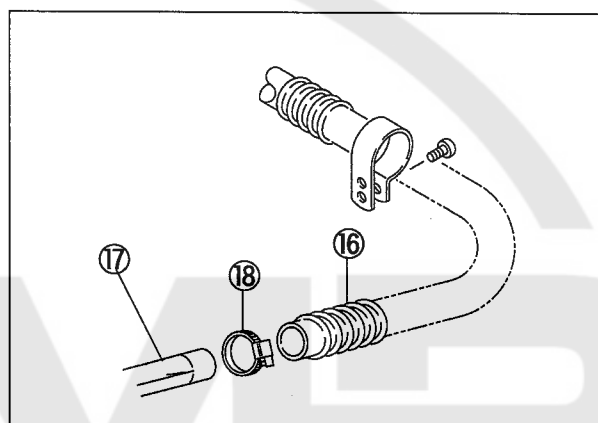

Fig. 5
- (7) Insert the suction hose ⑯ into the exhaust side of suction pipe C. set ⑰ and fix it with the hose band ⑱. (Fig. 5)